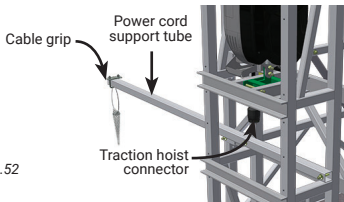

fig. 1.53
- 2- Using a U-bolt assembly, install the cable grip assembly on the support (fig. 1.53), at approximately 6' (1,8 m) from the traction hoist connector inside the car.